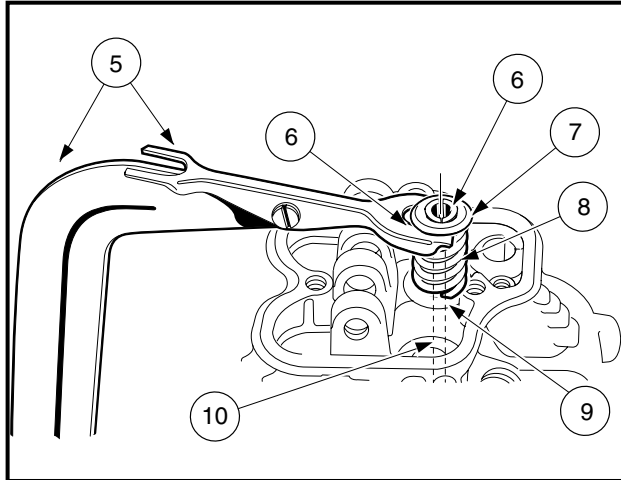
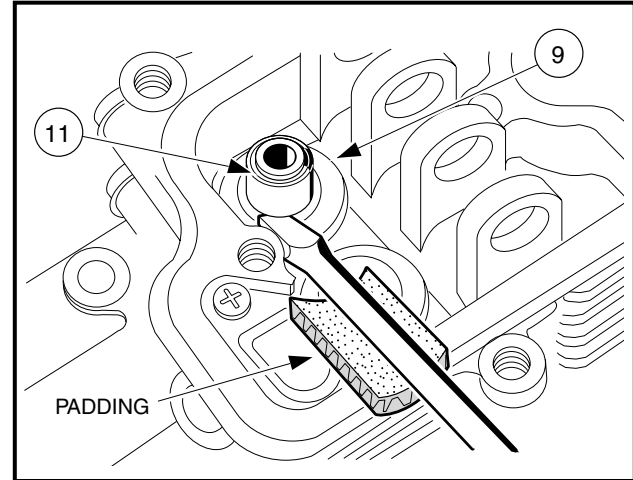

Figure 13-14 Valve Removal
Figure 13-15 Spring Seat Removal
1. Compress the valve spring using a valve spring compressor (5) (CCI P/N 101641101) and remove the collet halves (6) (Figure 13-14, Page 13-12).
2. Remove spring compressor, and take out the upper retainer (7) and the spring (8).
3. Remove valve (10).
4. Remove valve stem seal (11) with a screwdriver (Figure 13-15, Page 13-12). See following CAUTION.
- To keep the screwdriver from damaging the cylinder head flange surface, place a piece of heavy cardboard or wood between them (Figure 13-15, Page 13-12).
5. Remove spring seat (9) (Figure 13-15, Page 13-12).